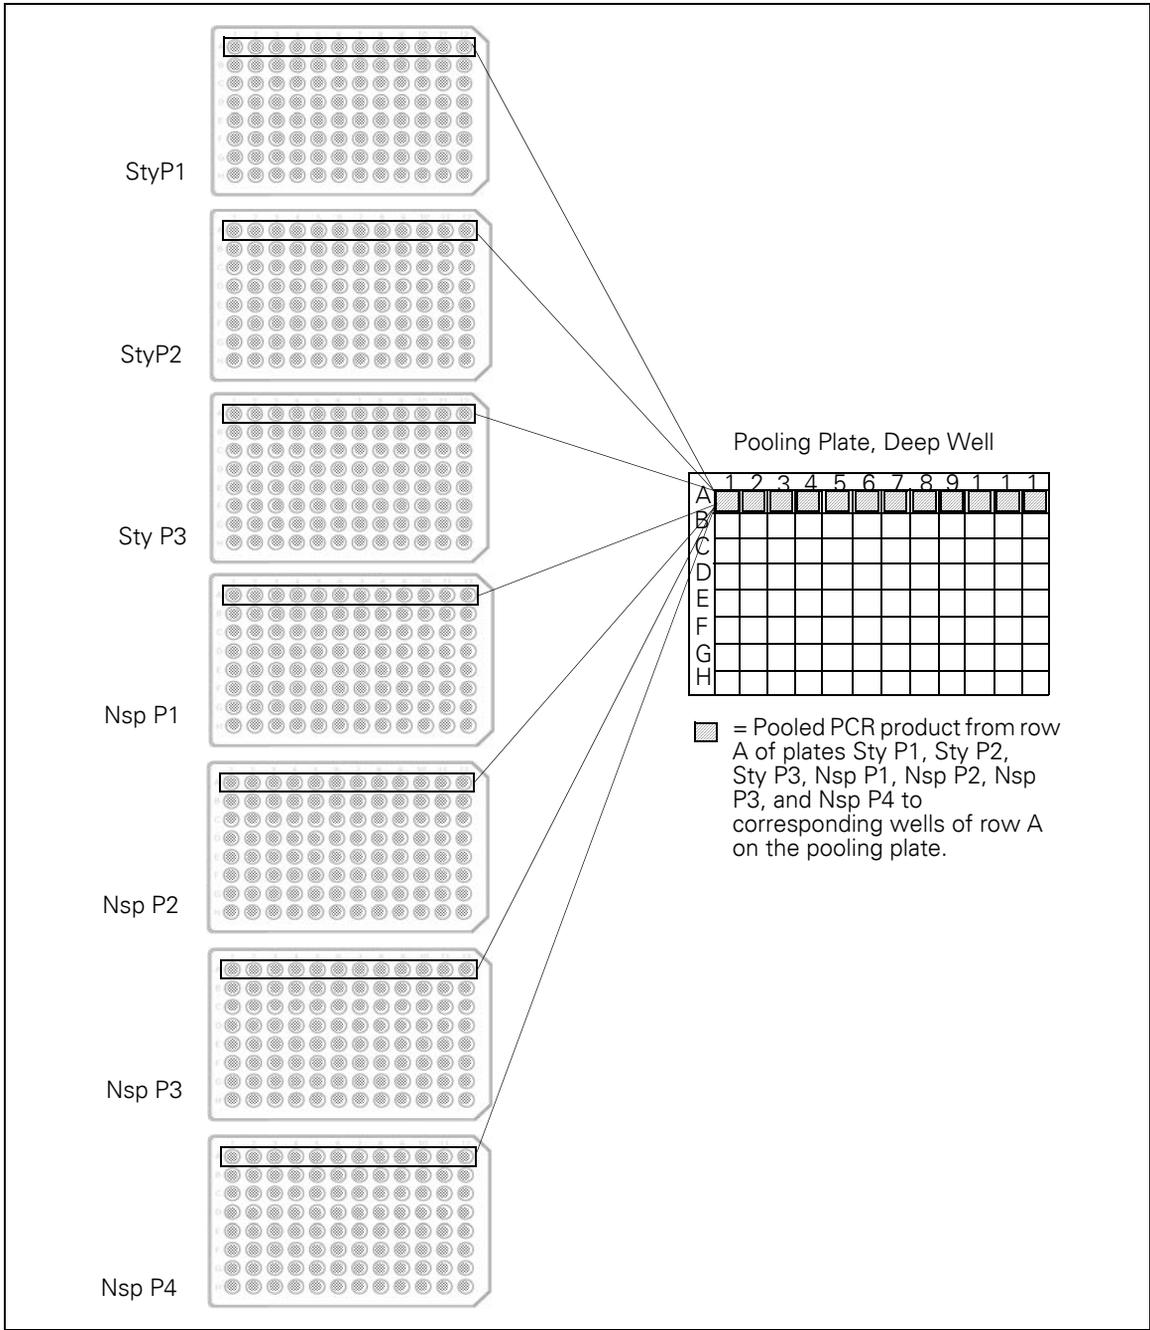

Figure 4.7 Pooling Sty and Nsp PCR Products on a Deep Well Pooling Plate
- B. Transfer the reactions from row A of each PCR plate to the corresponding wells of row A on the pooling plate (Table 4.37 below and Figure 4.7 on page 90).